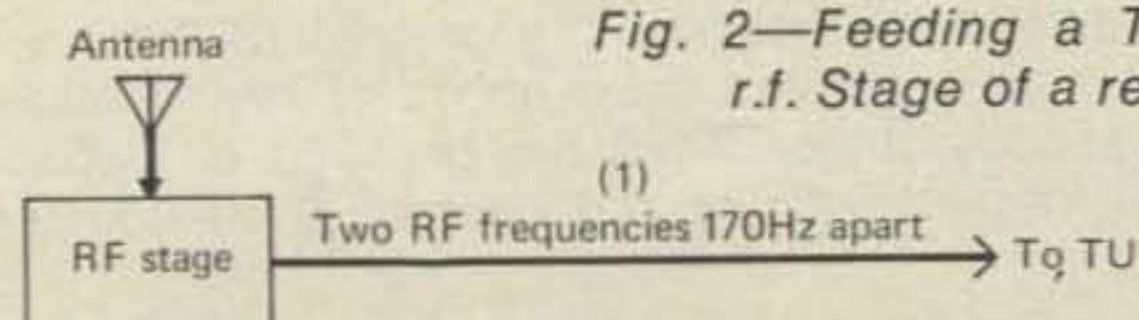

Fig. 2—Feeding a TU from the r.f. Stage of a receiver.
If the RTTY signal is fed into the converter from point (1), the signal source is effectively a truncated receiver as illustrated in fig. 2. This receiver has only an r.f. stage. If fed from here the TU must respond to two r.f. frequencies 170 Hertz apart. This is not easy to accomplish: for if such were the requirement, the TU's overall domain of response (its bandwidth) would have to be made very broad (on 20